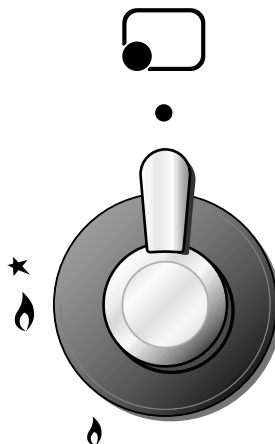

Fig. 4.3
Each hob burner is controlled by a separate gas tap operated by a control knob (fig. 4.3) which has 3 positions marked on the knob, these are:
- 1) Lightly press and turn the knob anti-clockwise, and make the symbol ★ 🔥 printed on the control panel to match with the indicator on the knob (fig. 4.3).